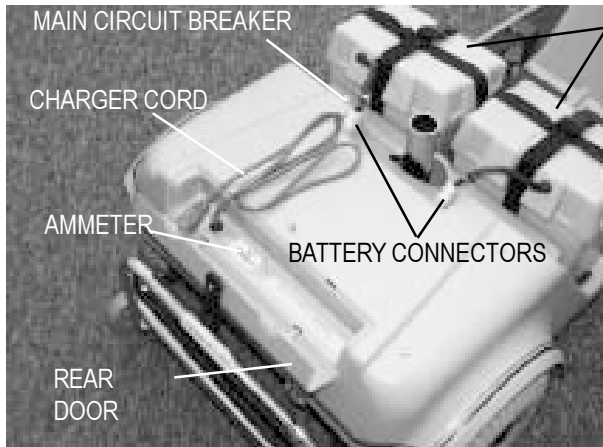

FIGURE 8. REAR SECTION
The onboard battery charger (not shown), the charger cord, the battery charger fuse (not shown), the batteries, the electronic controller assembly, the main circuit breaker, the manual freewheel lever, the anti-tip wheels, and the motor/transaxle assembly are located on the rear section of your Shuttle. See figures 8 and 8A.
- The main circuit breaker is located on the front of the rear shroud (behind the left battery case). See figure 8.
4. Check the indicator needle on the charger ammeter. See figure 8. This will be your indication of how fully charged the batteries are. Initially, the meter may read as high as 5 or more amps when charging low batteries.